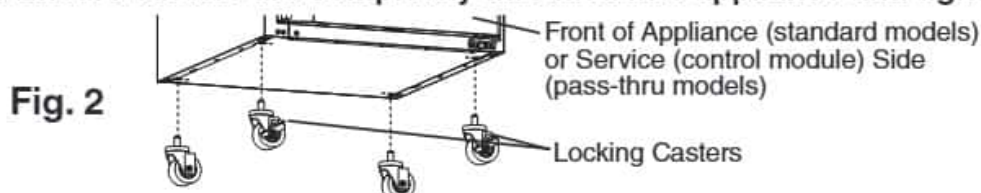

Fig. 2
- a) Casters: Attach and tighten the casters to the bottom of the appliance. Locking casters should be attached to the front of the appliance for standard models and on the service (control module) side on pass-thru models. See Fig. 2.